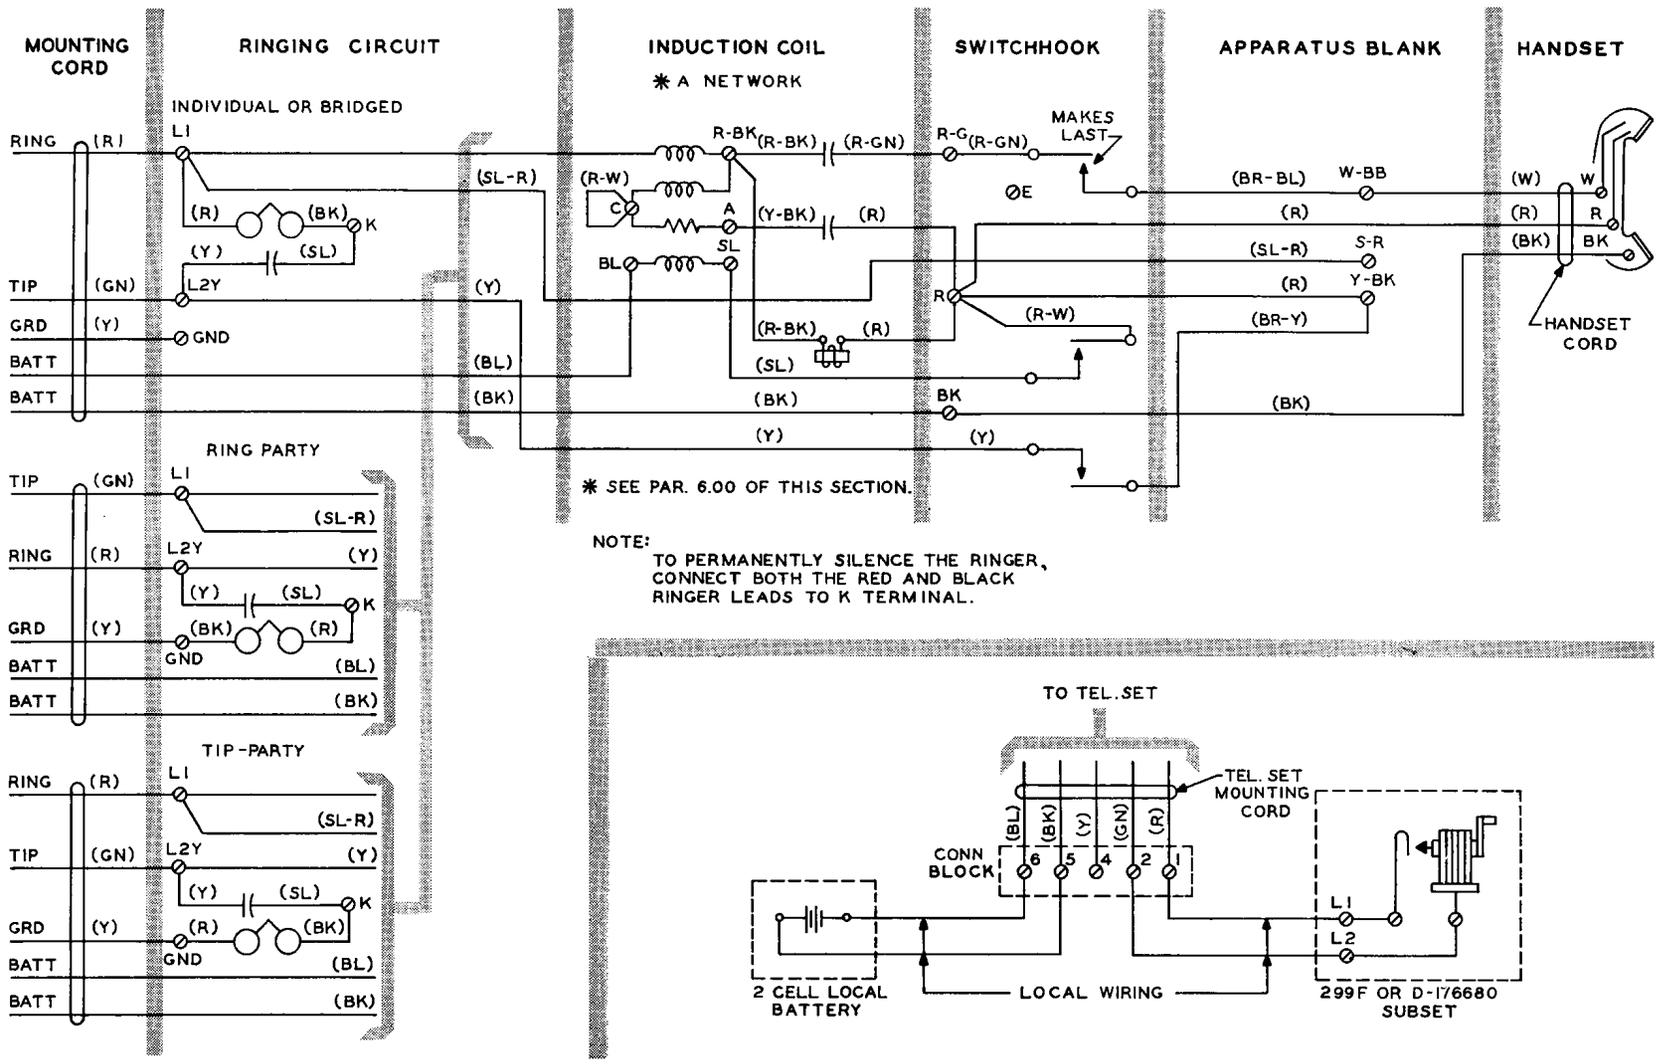

FIG. 5—307A TELEPHONE SET WITH MAGNETO CONNECTIONS (CIRCUIT DIAGRAM)
5.01 Where the transmitter battery for more than one station is obtained from a common source of supply, such as battery feed from the central office, the following changes in Fig. 5 must be made:
- Connect the red, black, and white conductors of the **F2** handset in the same way as shown for the **F1** handset in Fig. 5.
6.02 This set is normally furnished with the type **A** network as indicated in Fig. 5. Necessary changes in the set to obtain other networks are as indicated below: